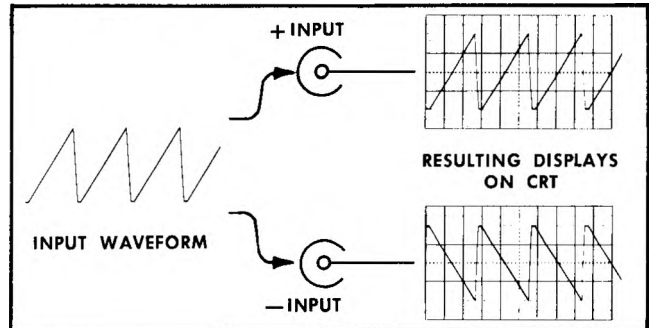

Fig. 2-1. Waveforms applied to the +INPUT connector produce an upright display, while waveforms applied to the -INPUT are inverted.
+INPUT Signal input connector. Positive input produces positive deflection (see Fig. 2-1).
-INPUT Signal input connector. Positive input produces negative deflection (see Fig. 2-1).